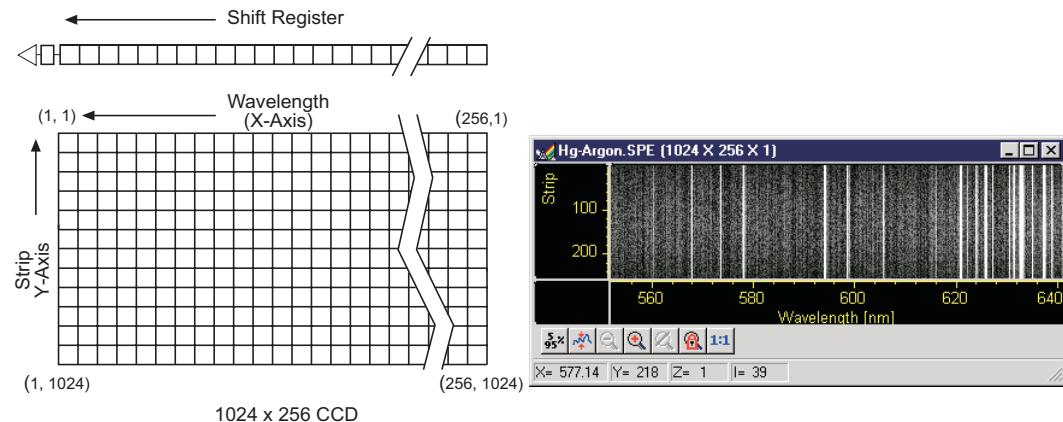

Figure 115. Assumed CCD Array Orientation
2. References to X and Y axes assume that the shift register is parallel to the X-axis and that the data is shifted to the shift register in the Y direction. See Figure 115 below.